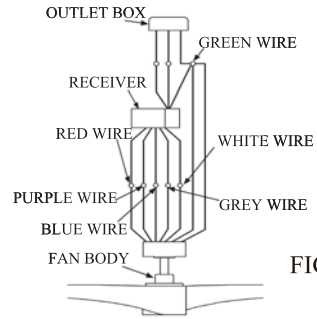

FIG.11
2. Connect the red wire from receiver to the red wire from fan with wire nut. Connect the purple wire from receiver to the purple wire from fan with wire nut. Connect the blue wire from receiver to the blue wire from fan with wire nut. Connect the grey wire from receiver to the grey wire from fan with wire nut. Connect the white wire wire from receiver to the white wire from fan with wire nut. Connect the green or bare copper wire from outlet box to the green wire from receiver, hanger bracket and downrod ball with wire nut. ( See Fig. 11 )